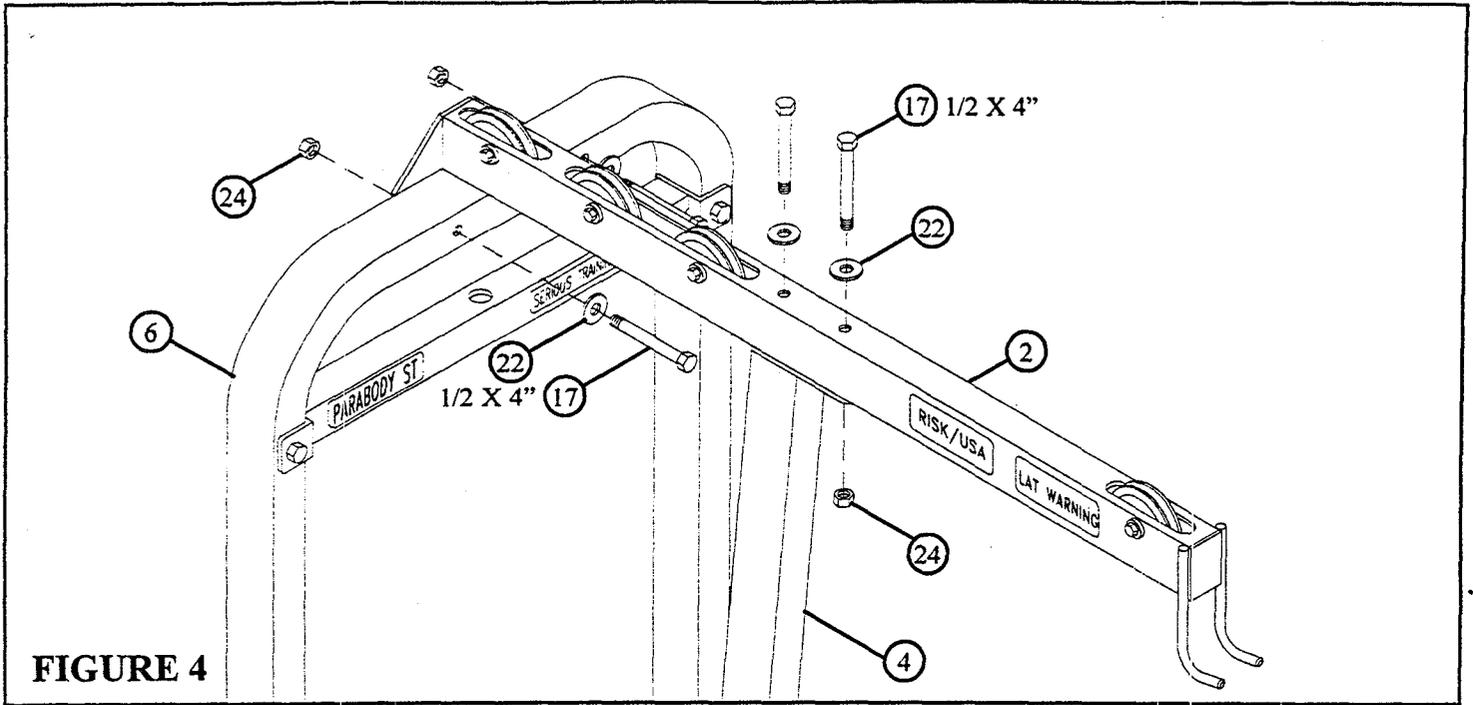

FIGURE 4
- A. Loosely attach TOP BOOM (2) to TOWER (6) and UPRIGHT (4) using four 1/2 X 4" BOLTS (17), four 1/2" WASHERS (22), and three 1/2" LOCK NUTS (24) as shown in FIGURE 4.